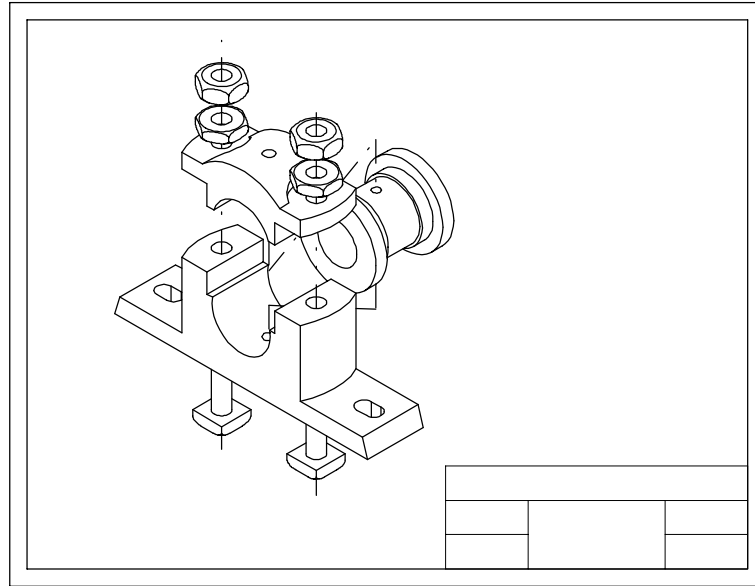

Figure 12-12 Exploded isometric view of the assembly
7. Turn off the display of the datums from the **Datum Display** toolbar. If the model is not properly placed inside the boundaries of the drawing sheet, double-click on the drawing view and place it as shown in Figure 12-12.